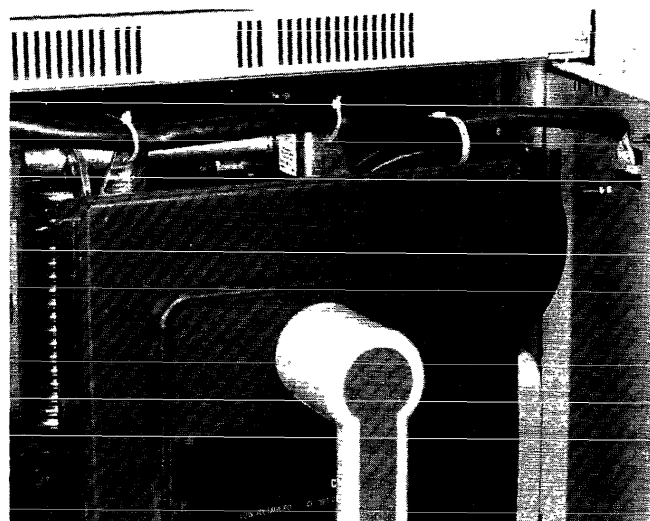

Figure 6. Connecting the Remote Display Harness.
- Connect the remaining end of the harness to the Remote Display, as illustrated in Figure 6. To test the installation, press the Battery key on the Remote Display and verify that the information on the Remote Display matches the information on the main display. If it does not, recheck all the harness connections.